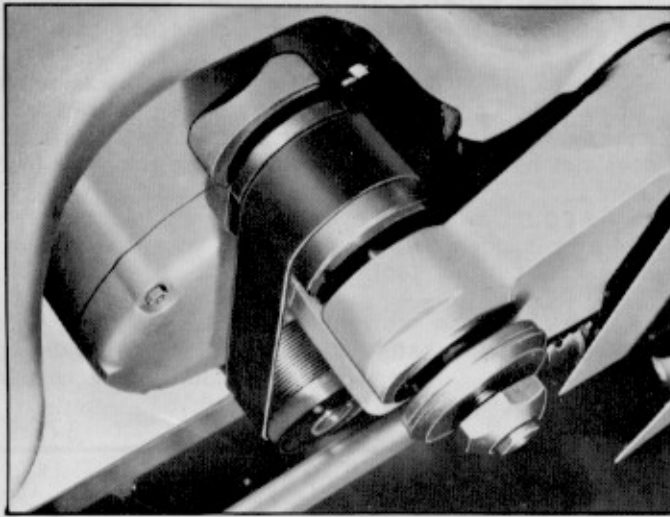
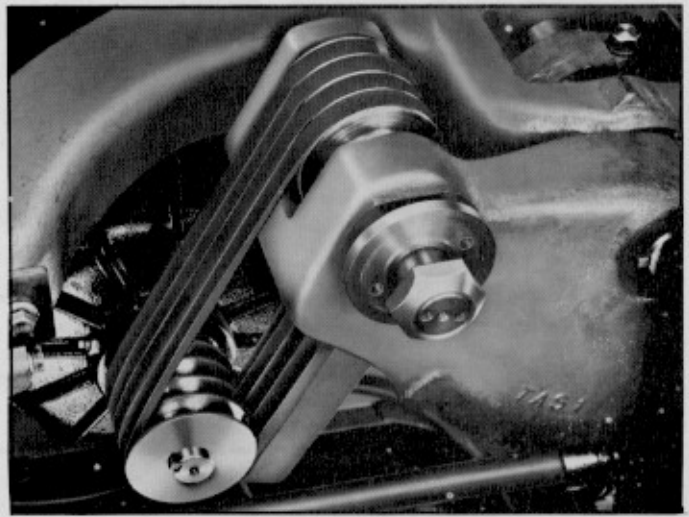

Fig. 5
Fig. 6
5. Fig. 5 illustrates the Poly V-Belt assembled to the two pulleys when the machine is equipped with the Poly V-Belt Drive System and Fig. 6 illustrates the matched set of four Belts assembled to the two pulleys when the machine is equipped with the Four Belt Drive System.